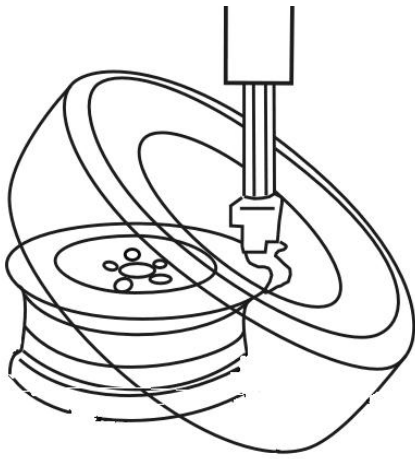

Fig.21
- Put the bead on the rim with the left side upward, pull back swing arm and place it on its working position. (as fig.21) .